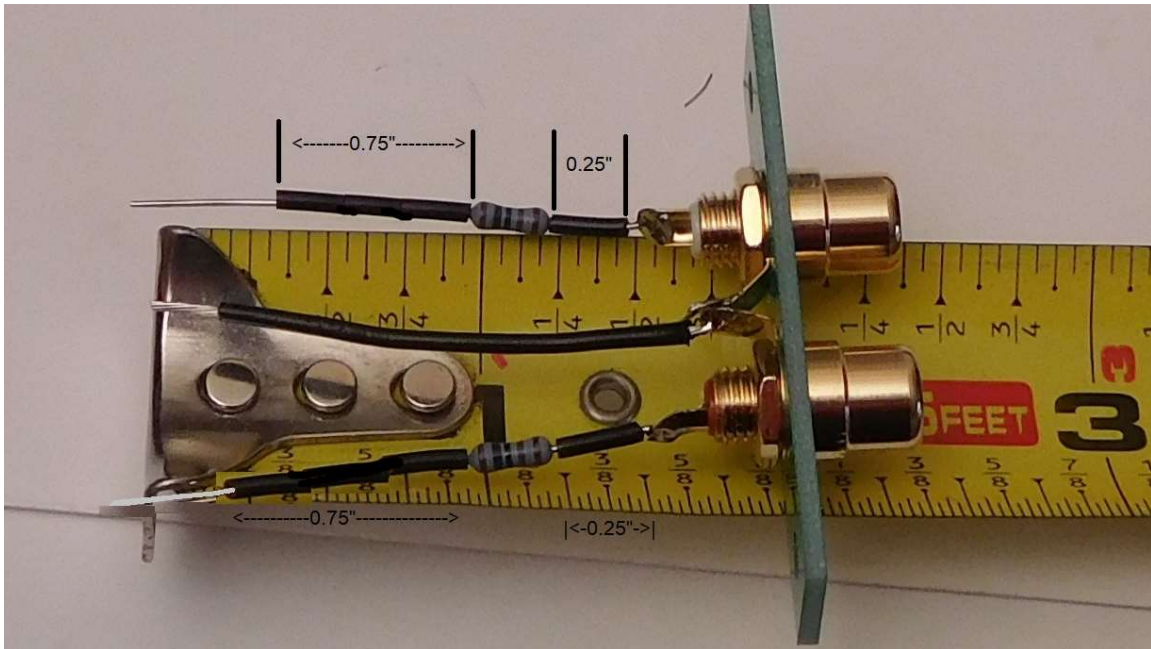

Figure 5-Completing the RCA Jack Assembly for the PC-36 based amps
The two ground lugs will be connected together, and will be brought closer together and share a common ground wire. This is shown in Figure 5.
- d. Assemble the resistors to the RCA jack center conductors as shown in Figure 5. Leave the long side of each resistor long for now.